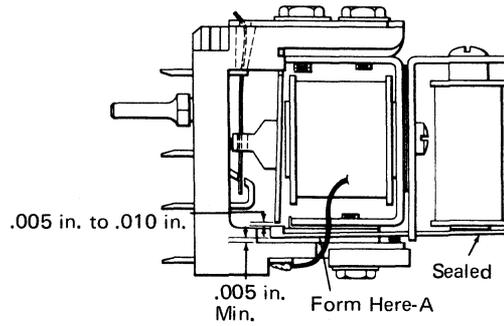

Figure 2-13. Unlatching Clearance
2. With the latch magnet energized, the latch armature should clear the relay armature by .005- to .010-inch at the latch point. At the same time, check for a minimum clearance of .005-inch between the bottom of the latch armature and the relay molding. No interference should exist with the movement of the latch armature at this point. If any change is necessary, form the latch armature at point A (Figure 2-13).